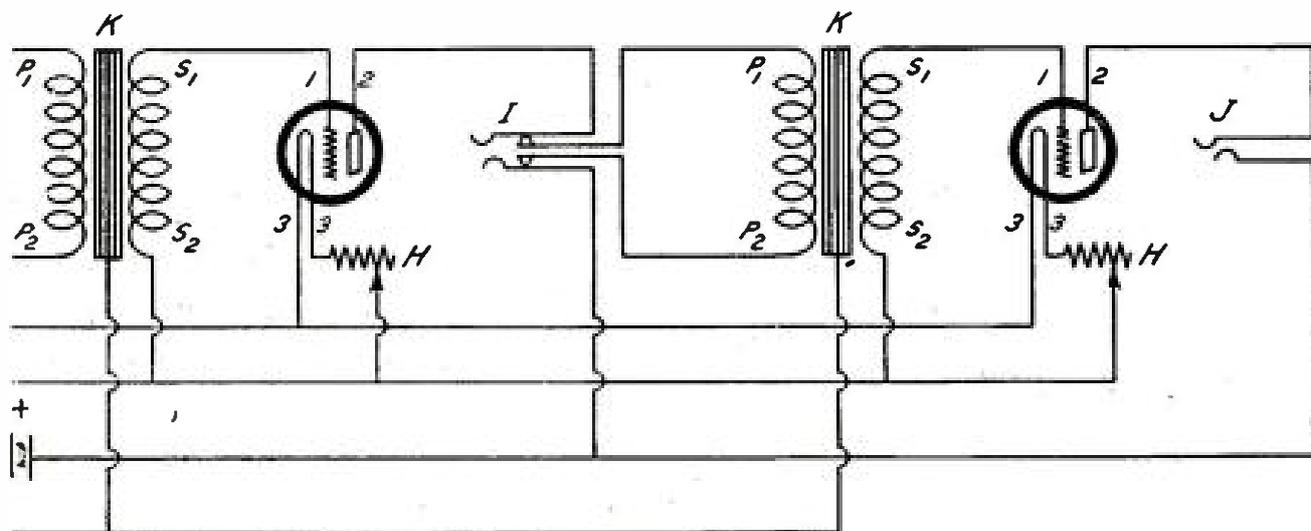

FIGURE 3: The circuit-diagram of a triple-coil set with two stages of audio frequency amplification. This set may be used with a loudspeaker.
*The details of the antenna construction are clearly shown in this view of Fred Mueller's boat on Lake Worth, Texas; it has picked up stations from Denver to Atlanta. The circuit is shown in Figure 3, (pages 14 and 15).*
The two-variometer and variocoupler hook-up makes a fine set, but such an outfit takes up too much room. This leaves but one choice in the way of a receiving set—the three-coil honeycomb outfit. (See Figure 3.)
The circuit is simple as is illustrated in the diagram. Figure 3. The coils are shown at the left of the drawing and are represented as A, the primary, B the secondary and C the tickler. For all ordinary broadcasting work these should be honeycomb or duolateral coils, L-50 for the primary and secondary and L-75 for the tickler. If at first the set does not function properly it will be wise to reverse the wires to the tickler.
post. Be sure to get condensers that have a good firm connection to the rotary plates, as this is the weak spot in many of the condensers that are on the market at present. F stands for the grid leak and condenser of the ordinary type, and 1 is the grid of the vacuum tubes and 2 is the plate. The two filament leads are shown at the two figures 3. H is the rheostat. A vernier rheostat might help a little at this point, if one of the highly critical tubes is used. The "A" battery may be three dry-cells connected in parallel, if the small one-and-half-volt tubes are used; if six-volt tubes are used a six-volt storage battery must be employed.